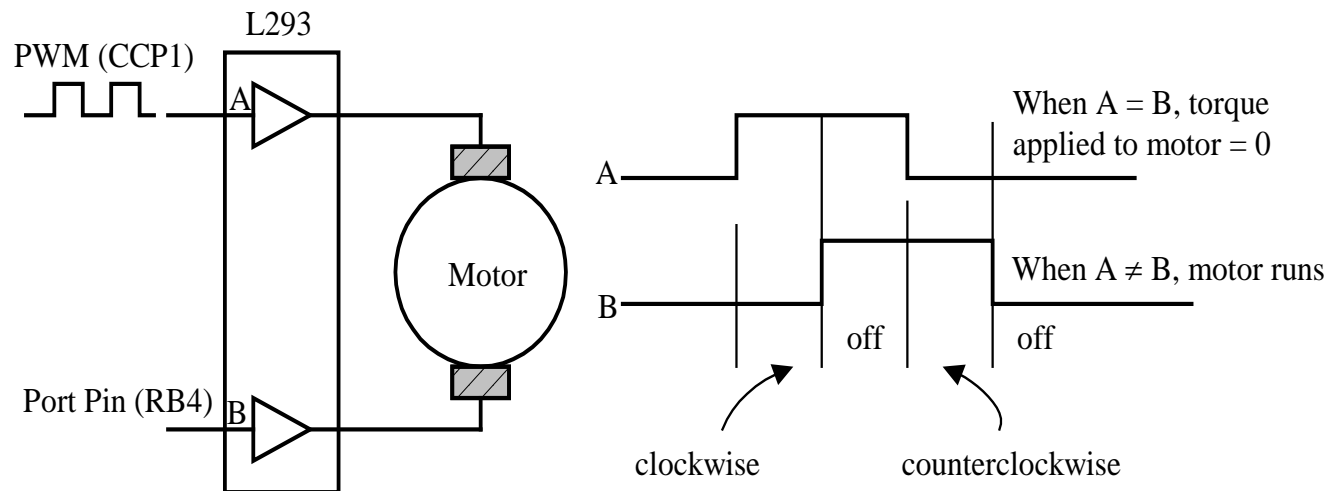

Figure 8.30 The L293 motor driver
- Depending on the voltages applied to pin 2 and pin 7, the motor can be rotating in clockwise or counterclockwise direction as shown in Figure 8.30.